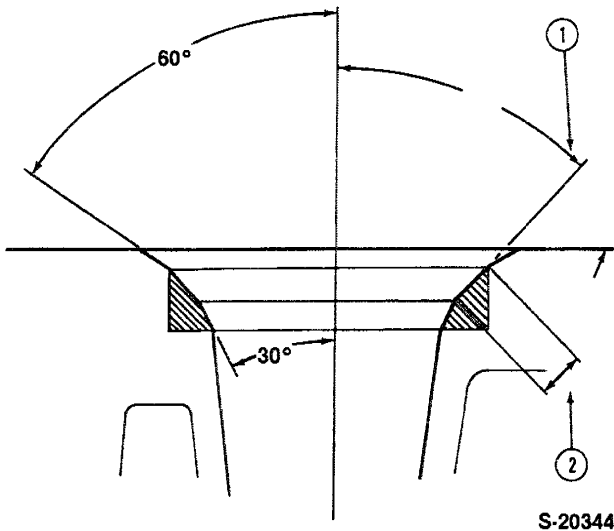

Figure 11
- Check the width of the valve seat inserts and, if necessary, reface by grinding to the dimensions shown in Figure 11.